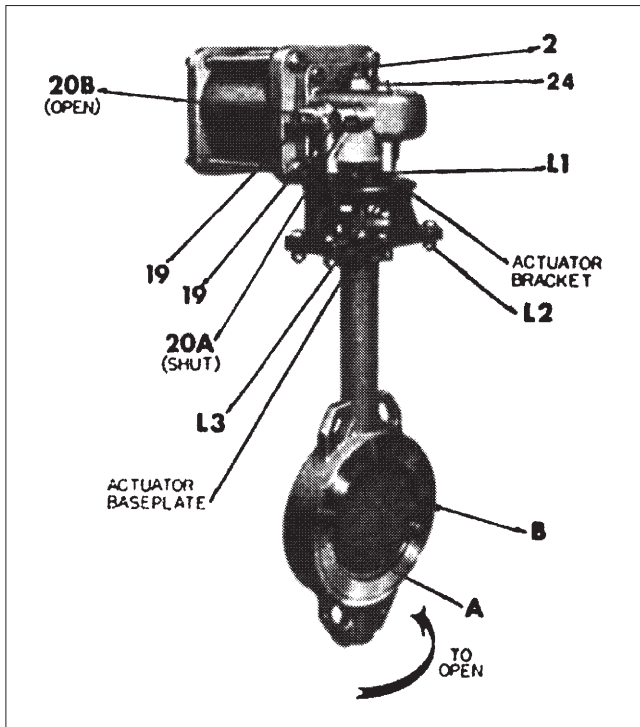

Figure 5.
- a. Disc travel on a *Wafer-Sphere* valve with a Type ST or ST-US pneumatic actuator is controlled by a closed ("shut") travel stop set screw (20A) and by an open travel stop set screw (20B) in the actuator. See Fig. 5.
- b. With the valve held firmly in a vise, remove acorn nuts (19) protecting the closed ("shut") and open stop set screws (20A) and (20B), respectively. **NOTE:** Be sure O-rings remain in the acorn nuts.
- f. Carefully turn the closed (shut) stop set screw (20A in Fig. 5) in, or clockwise, until increased resistance to further motion is felt. Turn the screw in an additional 1/8 turn. At this point, there will be a slight movement of the driver (2), and the pointer (24) will just begin to move, and the disc will come off the insert stop.
- h. Cycle the valve to the open position. If necessary, adjust the open stop set screw (20B) until the pointer (24) is approximately 90° from the closed (shut) position. This is full open.
- j. Now close the valve. With the valve in the closed position, and air applied, except on ST-MS versions, cover the closed stop set screw acorn nut (19) and tighten it.
To Change Actuator Quadrant or Linkage Installation (see **Fig. 5**)